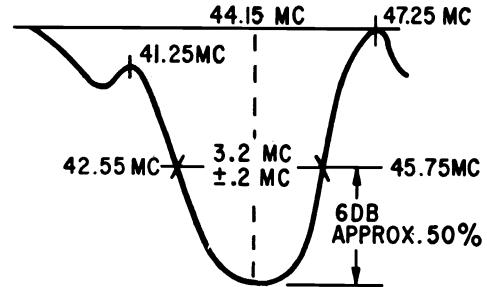

FIGURE 2
10.	If necessary, repeat steps 6 through 8 to obtain response curve of Figure 2.